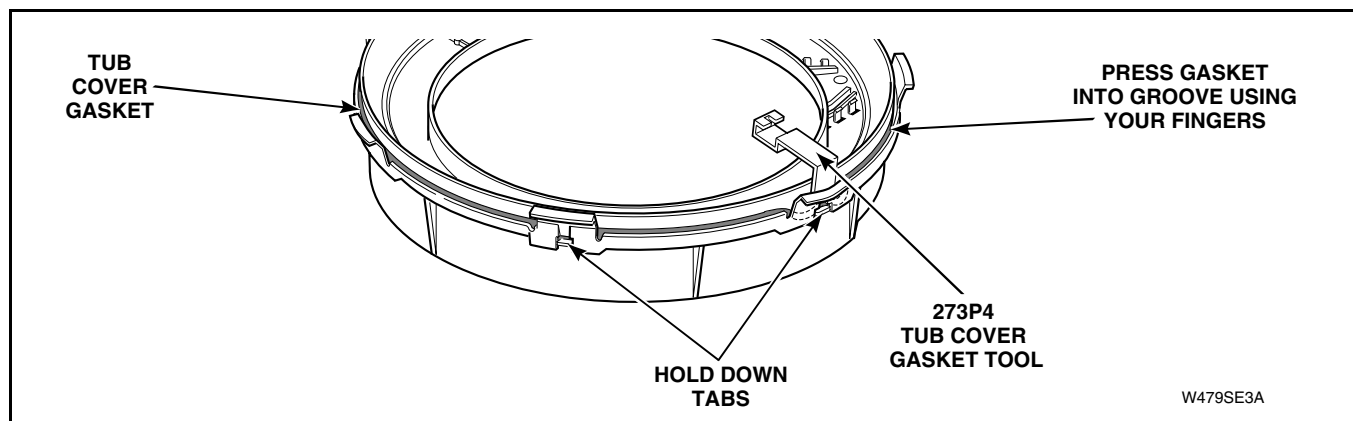

Figure 47
- j. Starting at positioning pin, lay gasket into gasket groove of tub cover. Refer to *Figure 47*.
- l. Install gasket past ends of hold-down tabs to bottom of gasket groove using semi-circled end of tool Part No. 273P4. Refer to *Figure 47*.
- (3) Starting at the positioning pin located at the bleach funnel area, lay gasket into gasket groove of tub cover. Refer to *Figure 47*.
- (4) Using your fingers, press gasket down into gasket groove of tub cover. Avoid pressing gasket past ends of hold-down tabs.
- (5) Install gasket past ends of hold-down tabs to bottom of gasket groove using semi-curved end of tub cover gasket tool Part No. 273P4. Refer to *Figure 47*.